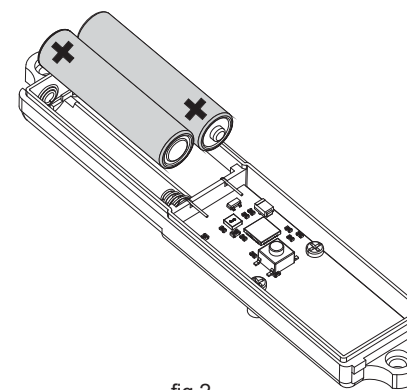

fig.2
5. Remove the exhausted batteries and replace them with new ones, respecting the correct polarity (see fig. 2)